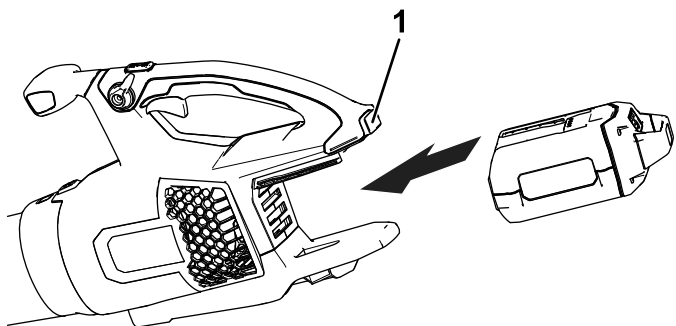

Figure 5
2. Align the cavity on the battery pack with the tongue in the handle housing (Figure 5).
3. Grasp the handle, and push the battery pack into the handle until the latch locks into place (Figure 5).